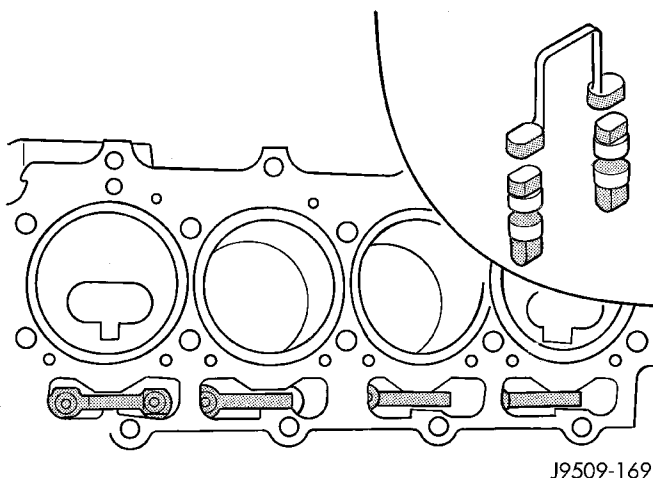

Fig. 14 Tappet And Yoke
- (4) Remove cylinder head, intake manifold, and exhaust manifold, refer to cylinder head removal in this section.
- (5) Remove yoke retainer and aligning yokes (Fig. 14).